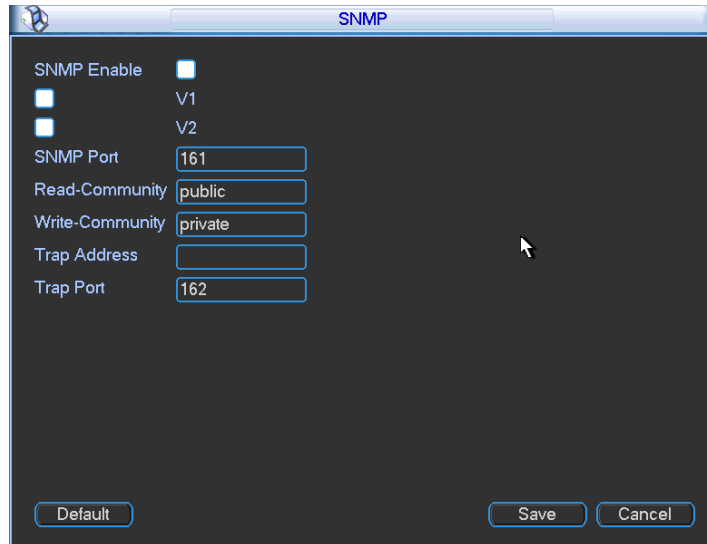

Figure 4-52
You can set in the following interface. See Figure 4-52.
- In Figure 4-52, check the box to enable the SNMP function. Input the IP address of the PC than is running the software in the Trap address. You can use default setup for the rest items.